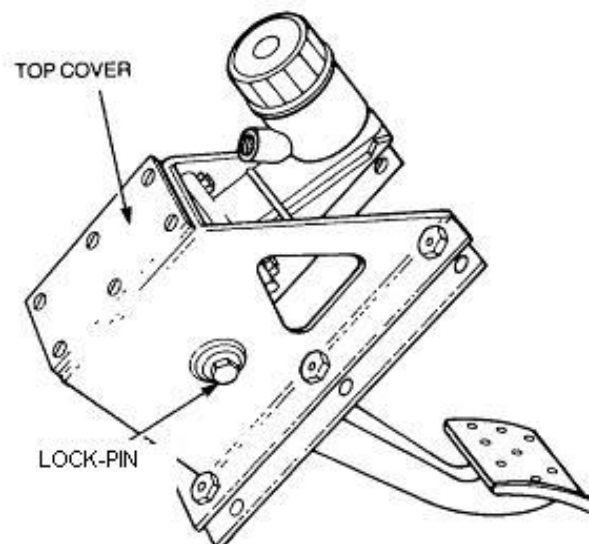

Figure 45 Top Cover Removal
- g. Remove the six screws securing the top cover and gasket to the pedal bracket (Figure 45).
- l. Remove the lock-pin from the pedal pivot (Figure 45).
- e. Install the lock-pin on the pedal pivot (Figure 45).